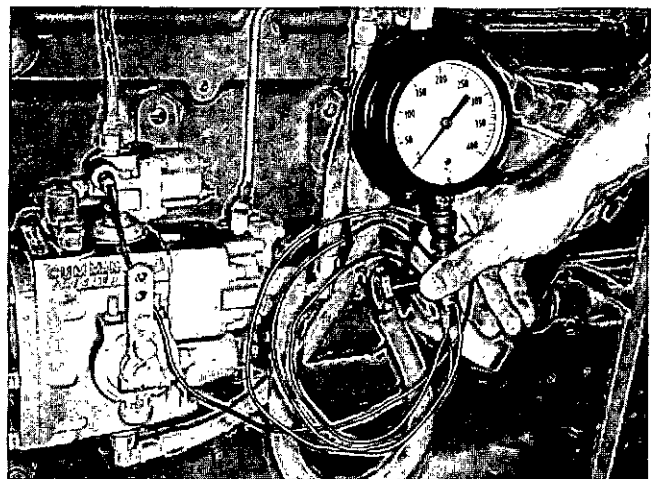

Fig. 5-39, N11966. Checking fuel manifold pressure ST-435
1. Check maximum fuel manifold pressure with ST-435, Fig. 5-39. Remove 1/8 inch pipe plug from side of fuel shut-off valve on top of fuel pump. Connect the gauge line in pipe plug hole.